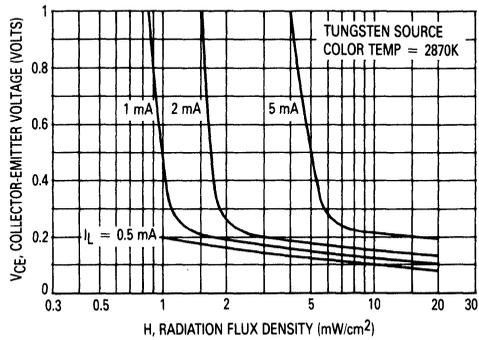

Figure 2. Collector-Emitter Saturation Characteristic
2. Radiation flux density (H) equal to 0.5 mW/cm^2 (pulsed) from a GaAs (gallium-arsenide) source at $\lambda = 940 \text{ nm}$.
3. For unsaturated response time measurements, radiation is provided by pulsed GaAs (gallium-arsenide) light-emitting diode ($\lambda = 940 \text{ nm}$) with a pulse width equal to or greater than 10 microseconds (see Figure 2) $I_L = 1 \text{ mA peak}$.